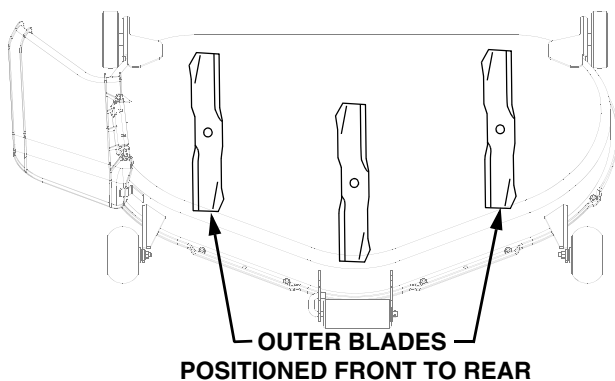

Figure 30
- Position the mower blades so the ends of each blade point to the front and the rear of the tractor (See Figure 30).